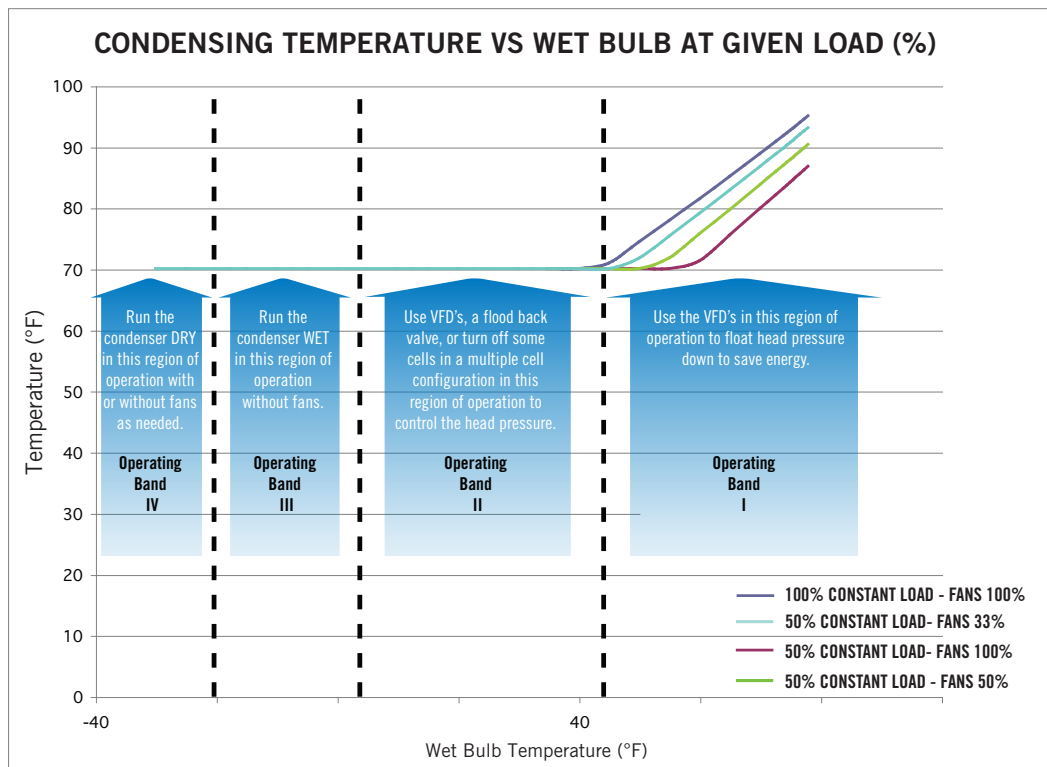

Figure 1. Condensing Temperature as a Function of Wet-bulb Temperature at Various Load Conditions
Maintain condensing temperature at 70°F or at a minimum temperature desired by the system designer for hot gas defrost. As load decreases use VFDs on the fan(s) to accomplish this (Operating Band 1, **Figure 1** on **page 2**).
- Maintain condensing temperature at 70°F or at a minimum temperature desired by the system designer for hot gas defrost. As load drops use VFDs on fan(s) to maintain set condensing temperature (Operating Band 1, **Figure 1** on **page 2**).
- With a further drop in load, in a multi-fan unit, turn off individual fans to match load. Use the VFDs on the others. If the system has a flood back valve, it can be used to back up refrigerant in the condenser to maintain minimum condensing temperature (Operating Band II, **Figure 1** on **page 2**).
- Once the load drops to a point where maintaining minimum condensing temperature is not possible with VFDs alone, switch off the fans and run the condenser wet (Operating Band III, **Figure 1**).
- As a last step run the condenser dry. Once pump(s) are off, allow enough time for water to drain down to the sump before switching the fans on. This prevents freezing in the fill (Operating Band IV, **Figure 1**).
- When operating dry, as the load increases, ramp up VFDs on the fans to match the load (Operating Band IV, **Figure 1**).
- With a further increase in the load, shut the fans off, and allow the condenser to stabilize before turning the pump back on in below freezing conditions. Once the pump has been running for a few minutes and the water gets warm and reaches steady state, further increase in the load can be satisfied by turning the fans on and ramping up VFDs. This dwell time is very important to prevent freezing on the fill (Operating Band III and II, **Figure 1**).
- As the load increases in a multiple fans unit, turn on individual fans and ramp the VFDs as needed to match the load. If there is a flood back valve, open it fully to use the full condenser (Operating Band III and II, **Figure 1**).